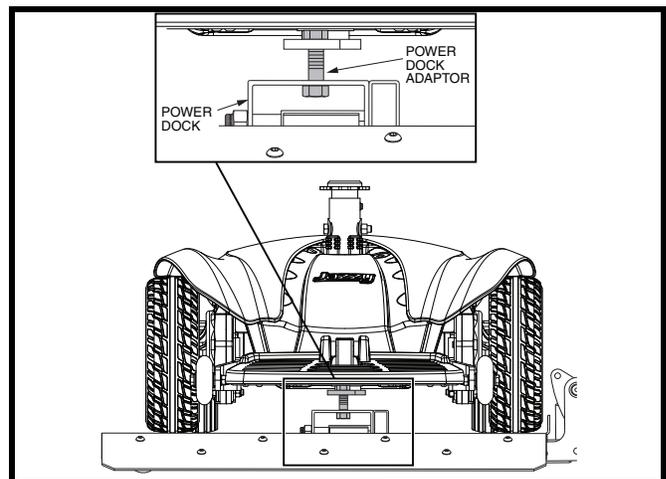

Figure 17. Power Chair Loaded
4. Ensure the power dock adaptor is secured into the power dock then turn the power chair off. See **figure 17**.